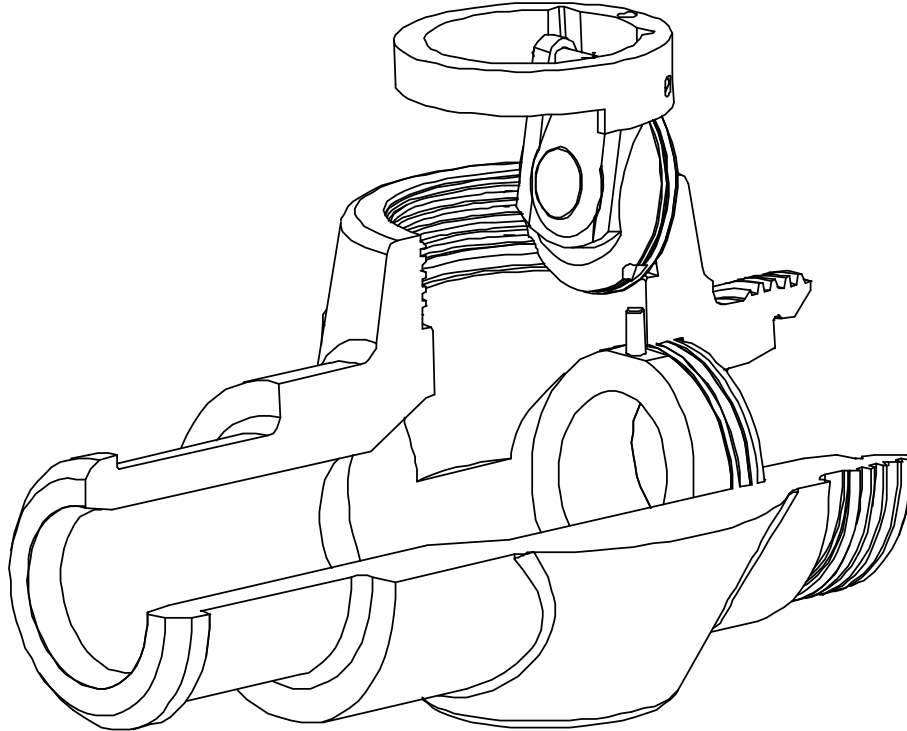

Figure 3: Flapper Assembly Orientation
4. Generously lubricate the body bore that will receive the pivot pin retainer of the flapper subassembly. Place the flapper subassembly down into the body while aligning the hole in the pivot pin retainer with the alignment pin in the top of the seat. Be sure that the retainer is oriented as illustrated in Figure 3.